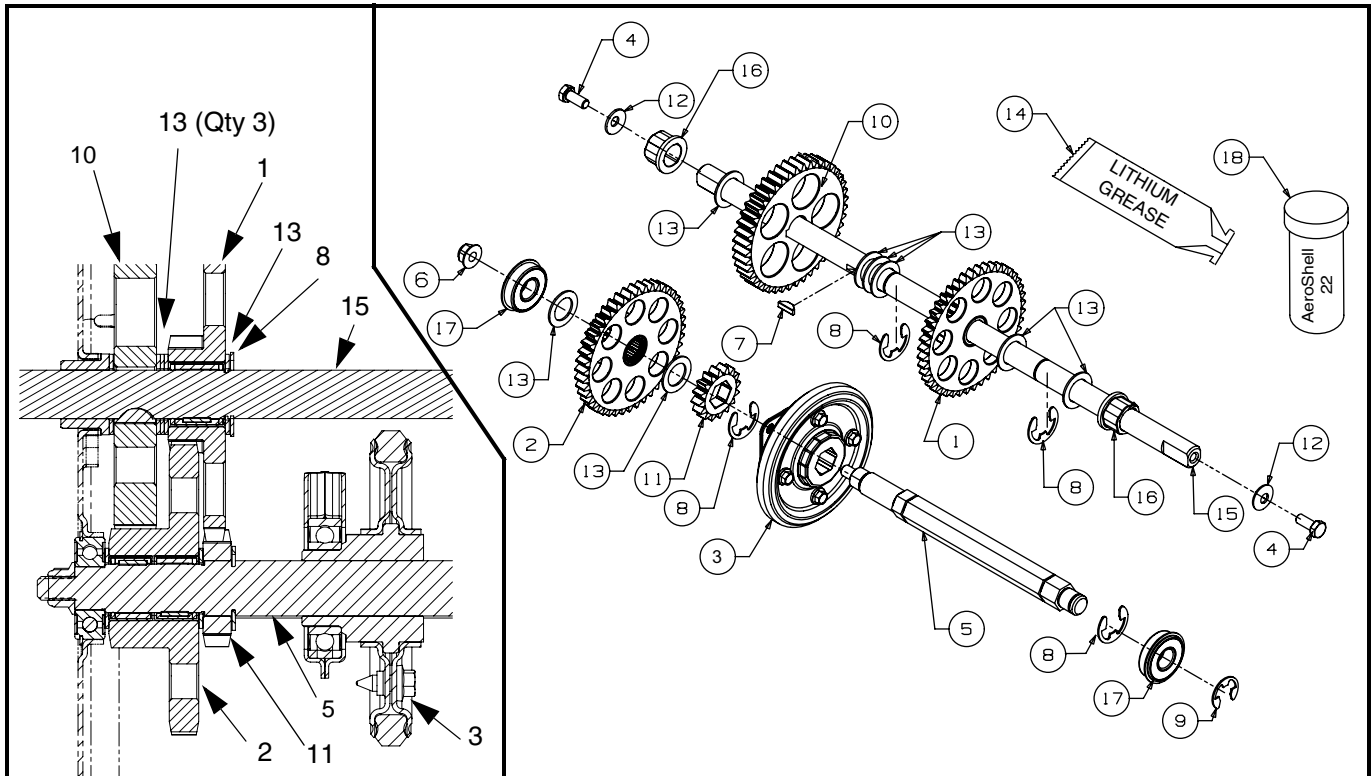

FIGURE 1
20. For Reference - Figure 1 Inset is a sectional view of the completed assembly of the gear cluster. The exploded view of Figure 1 is not representative of the correct positioning of Gear Assembly, Item 1.